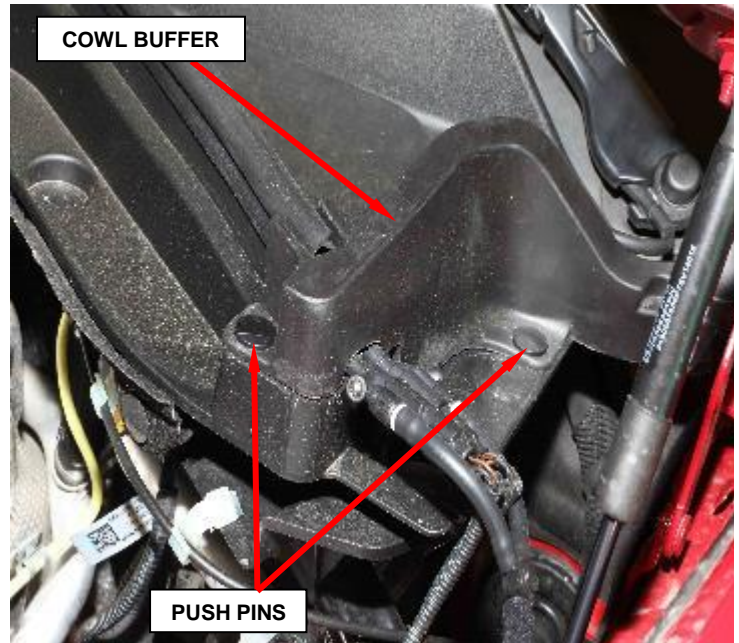

Figure 5 – Cowl Buffer
b. Use a trim stick to release the left cowl buffer push pins (Figure 5).
c. Remove the left buffer by releasing it from its seat (Figure 5).